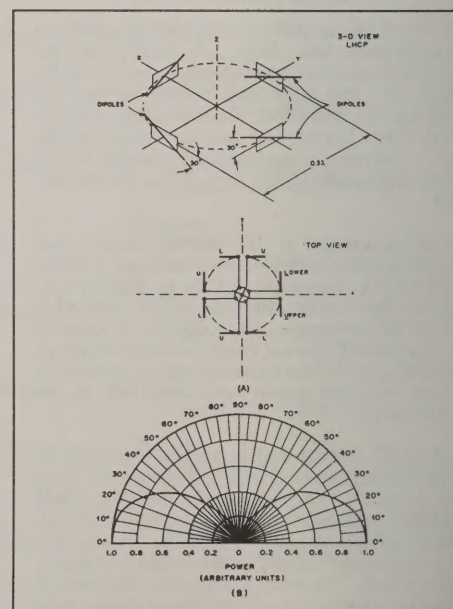

Figure 2 — From the *Satellite Experimenter's Handbook*. 2A not to scale.
Figure 2 (B) shows the free space vertical power vs. elevation angle for the Lindenblad antenna. This works out great for the MicroSats. I often get intermittent print below 5 degrees. As the birds get higher, they also get closer and stronger. This results in a signal that only gets better as the birds climb higher.
Figure 2 (A) and 3 show a schematic (that is not to scale) of the Lindenblad's layout. Table 1 contains the dimensions for Lindenblad antennas cut for 436 MHz. Rather than use wood as suggested in the *Satellite Experimenter's Handbook*, I used some scrap quarter inch thick plexiglass that I had left over from another antenna project. Check your Yellow Pages for plastic firms and you may be as fortunate as I was, and be able to get their scraps cheap or free. But wood or any other nonconducting material should work fine.